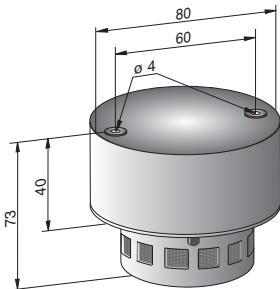

Fig. 2 Key dimensions
- Mount the base on the ceiling using the fixing materials provided (see Fig. 2 for dimensions).
- Attach the 9 V rectangular battery to the connector (4) and insert it into the battery holder (1).